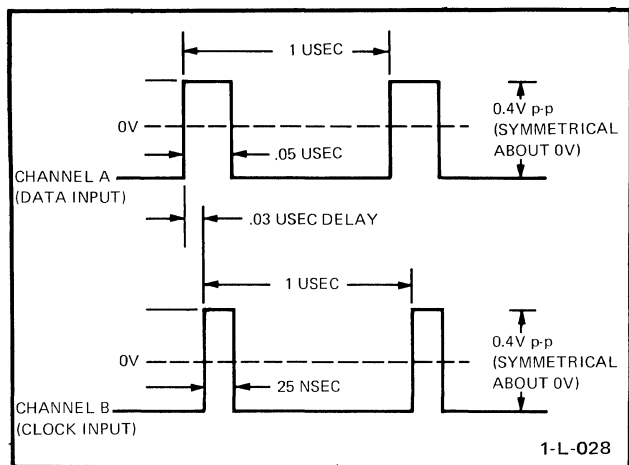

Figure 5-5. Repetition Rate Test Waveforms
b. Apply test waveforms shown in figure 5-5 to the clock and data probe inputs of the Model 1601A.
When increasing pulse generator frequency, verify that leading edge of trigger input pulse remains delayed from the leading edge of the data input pulse at least 35 ns (see figure 5-5).